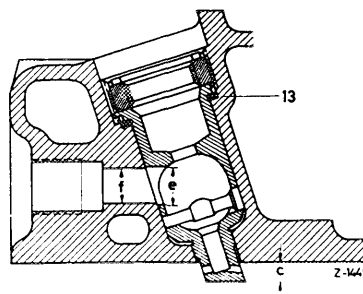

Fig. 01-0/1
1) On Models 200 D/8 and 220 D/8 after refinishing the cylinder head parting surface, the distance "c" of 5.5 to 5.9 mm between the face of the prechamber and the parting surface of the cylinder head must be maintained by adding a pertinent sealing ring (13) (Fig. 01-0/1).